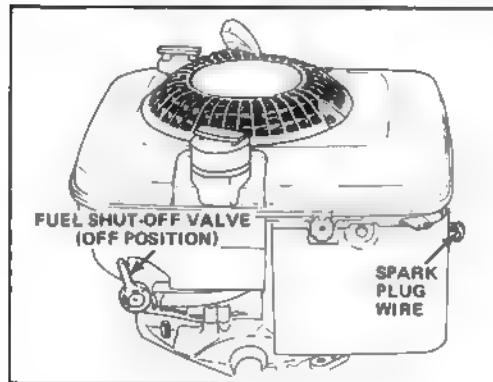

Figure 15
2. Move fuel shut-off valve to OFF position (Fig. 15).